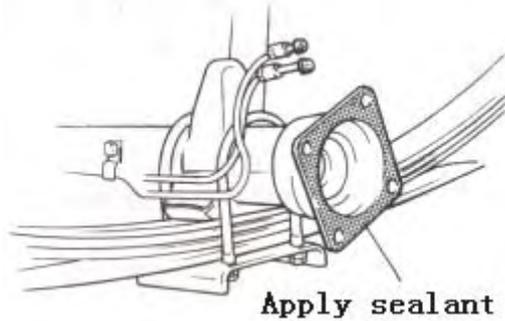

FIG 13-32
(6) Loosen oil filler plug and take out plug and plug washer.
(7) Apply staunch sealant to surface of rear axle to mate with brake back plate.(FIG.13-32)